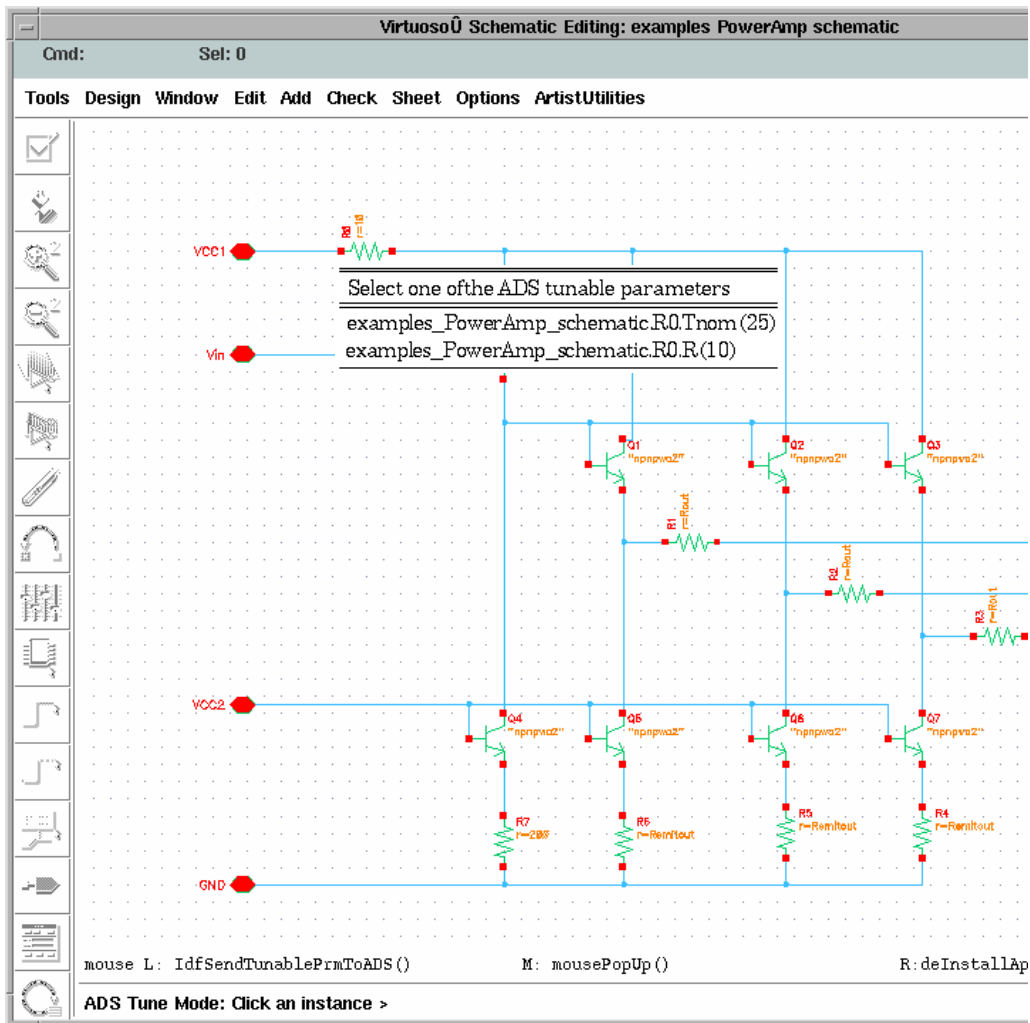

Figure 7-3. Select Tunable Parameter Pop-up Menu in the Cadence Virtuoso Schematic Window.
5. Left click resistor $R0$ in the Cadence schematic window. A menu pops up beneath $R0$ as illustrated in Figure 7-3. The popup menu is displayed because there is more than one tunable parameter in $R0$, R and $Tnom$. Cadence instance parameters are sent to ADS one at a time.